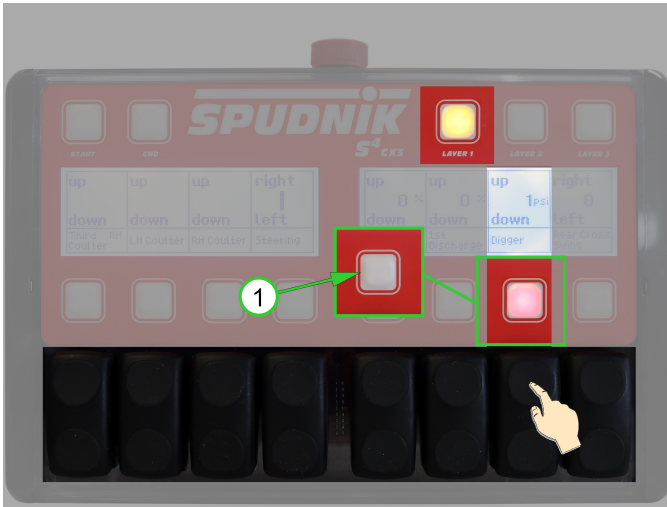

Figure 34
Press LAYER 1 rocker switch 7 (*Digger*) up to raise the digger nose. The (1) soft key light turns off and the digger nose powers up for as long as the rocker switch is held. Upon releasing LAYER 1 rocker switch 7 (*Digger*), the digger nose exits Ridge Relief. (See Figure 34)